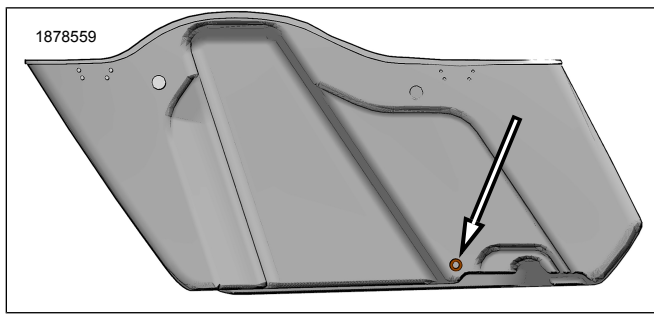

Figure 2. Saddlebag Lower Hole Drill Location
1. Disconnect Original Equipment (OE) harness connector on back of rear running/turn/stop lamp.
2. Figure 2 Drill lower saddlebag harness pass-through.